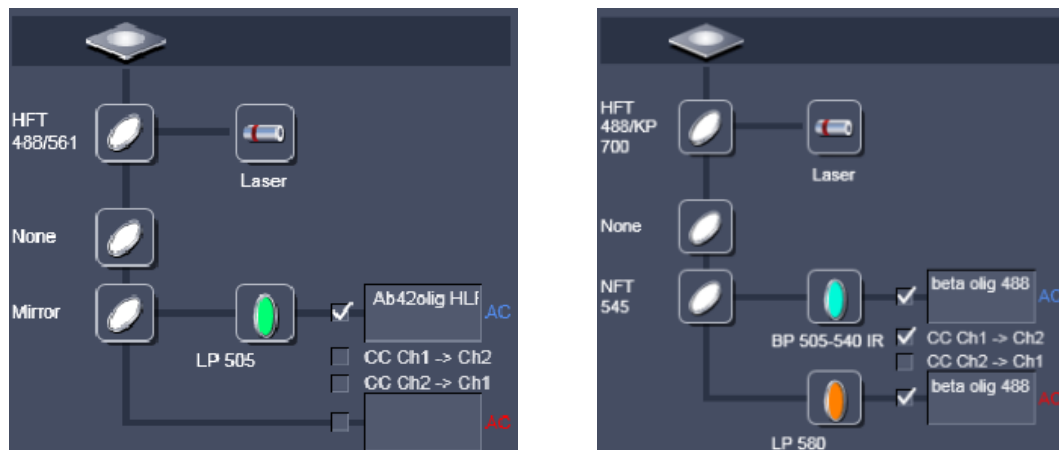

**Fig.8: 'z' control**
- Increase 'z' of the objective till you get a signal. Then zero the 'z'. You have now located the bottom of the coverslip. (See fig. 8)